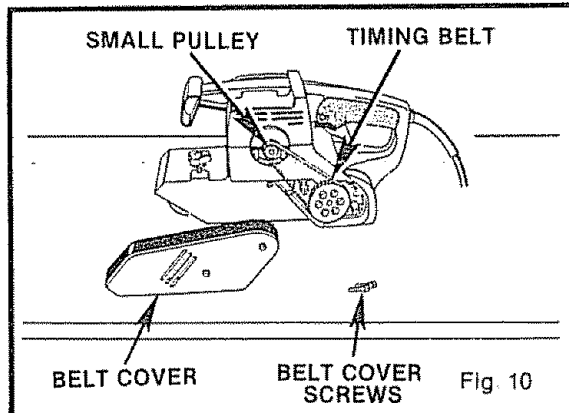

Fig. 10
- 4 Install new belt over large pulley first. See Figure 10.